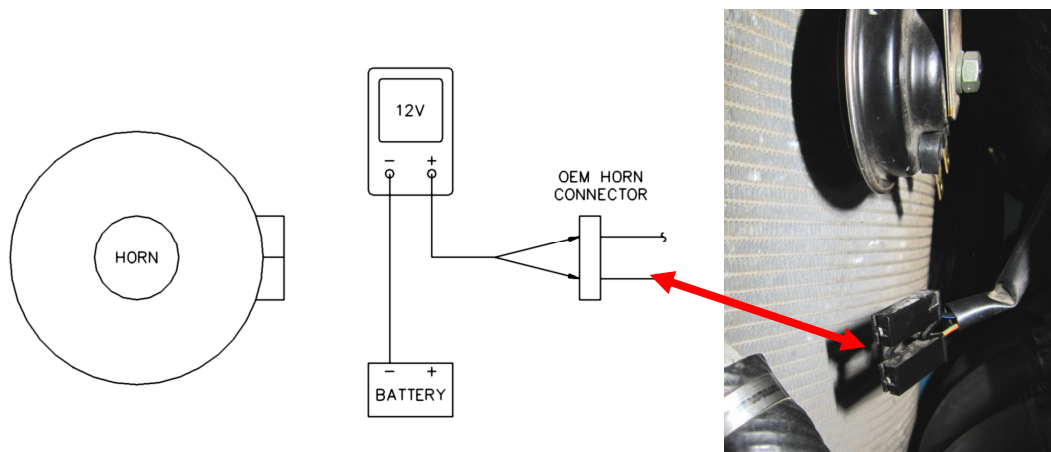

**Figure 3 : Type 1 Wiring**
5. Determine whether the motorcycle wiring is *type 1* (Figure 3) or *type 2* (Figure 4). Refer to the motorcycles wiring diagram OR test the OEM horn connector with the ignition ON (Figure 5). *Type 1* wiring can be verified by measuring 12 volts on one of the terminals when the ignition is ON. Note the 12 volt wire colour. *Type 2* wiring can be verified by measuring 12 volts on one of the terminals only when the horn button is pressed.